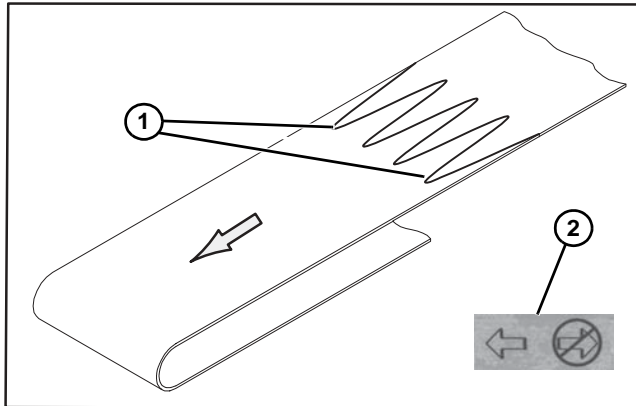

Figure 28
2. Orient belt so splice leading fingers (Figure 28, item 1) point in the direction of belt travel as identified by the conveyor directional label (Figure 28, item 2).